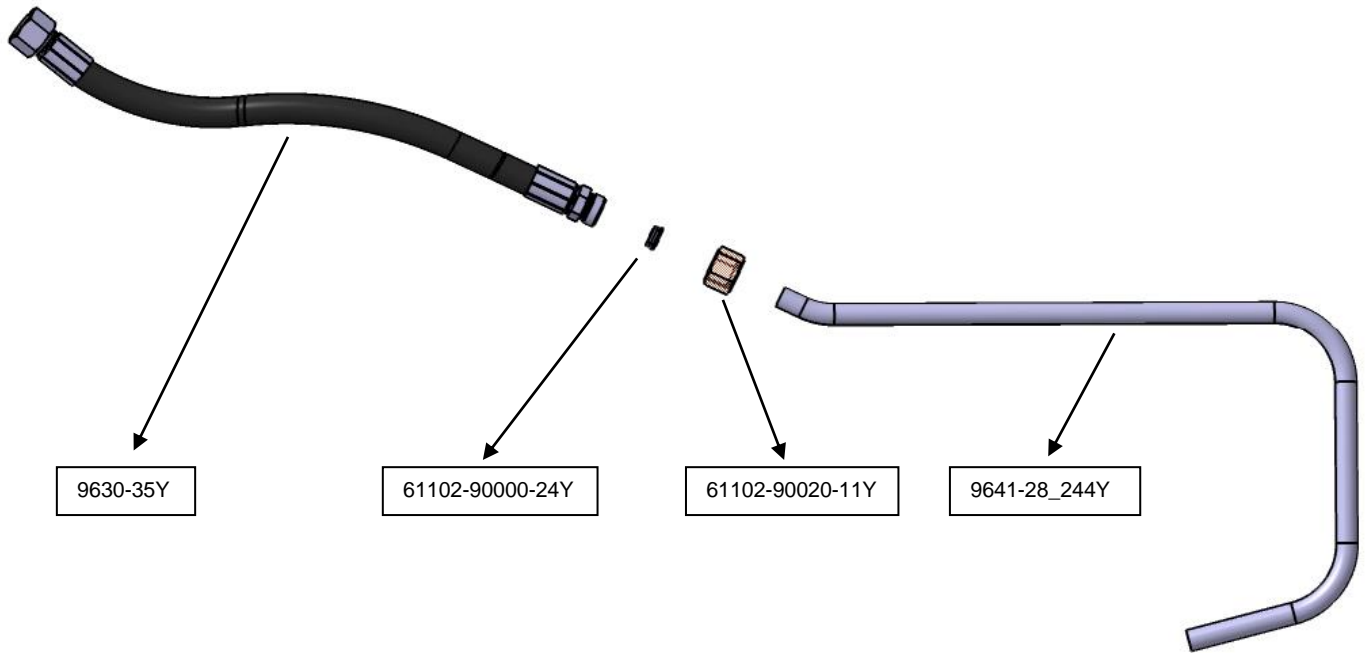

Figure-7
7. Mount the 9630-36Y numbered hose and 9641-28\_247Y numbered pipe with using 61102-90000-24Y and 61102-90020-11Y as showed in **Figure-7**. (Look at the Note-1 in page 11 for the tightening procedure.)